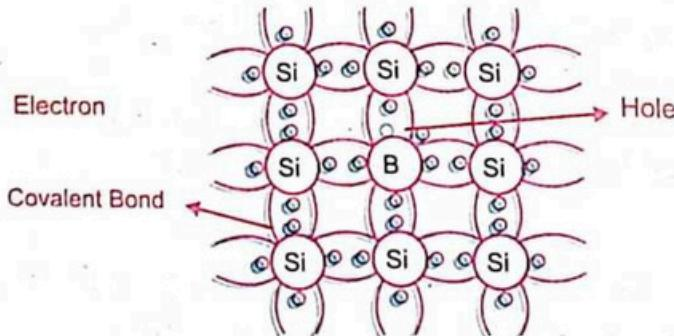

Fig.17.6 Doping of Silicon Si atoms with Boron B, their covalent bonds have one free hole.
When an impurity of trivalent element (valency 3) like boron (B), gallium (Ga), Indium (In) etc. is added to a pure semiconductor (germanium, silicon) in a specific ratio then such doped semiconductor is called P-type semiconductor. To explain the formation of P-type semiconductor, consider a trivalent impurity like boron (B) which is added to a pure silicon. Boron has three valence electrons in its outermost shell while silicon has four electrons. Therefore, the three valence electrons of boron form covalent bonds with four neighbouring silicon atoms, this leaves one of the four silicon atoms with an unsatisfied bond i.e., leaves a vacancy called holes as shown in Fig.17.6. Since one added atom of boron provides one hole, so, a small amount of boron added to pure semiconductor provides a number of holes. These hole act as positive charge carrier and cause of conduction in the extrinsic semiconductor called P-type semiconductor. As the created hole accepts the electrons, so the P-type semiconductors are also called acceptor semiconductors. In P-type semiconductor holes are majority charge carriers while electrons are minority charge carriers.